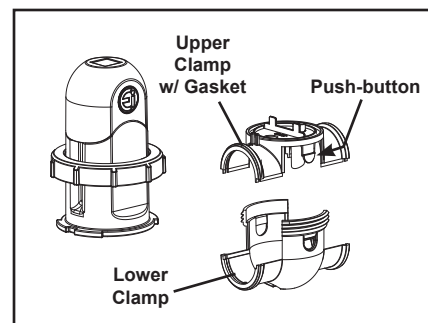

Figure 6. Disassemble Cell
5. Unscrew the locking ring from the cell in order to extract it from the upper clamp (see Figure 6).
6. Press the two (2) push-buttons on either side of the upper clamp to separate the upper clamp from the lower clamp (see Figure 6).